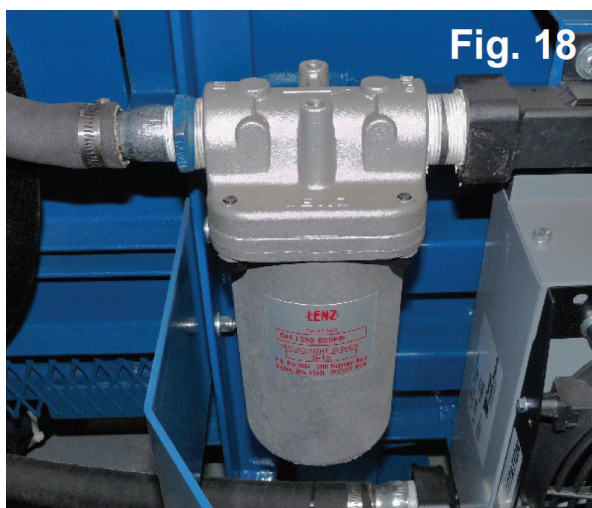

Fig. 18
1. Drain hydraulic fluid every six months when replacing the oil filter. (Fig. 18)